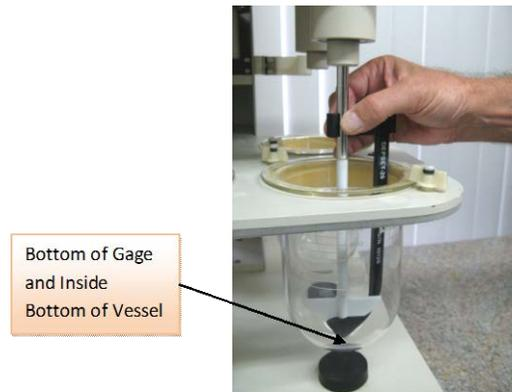

Figure 2
- 4.2.2 The paddle or basket assembly is lowered until the bottom of gage touches the inside bottom of the vessel as shown in Figure 2.